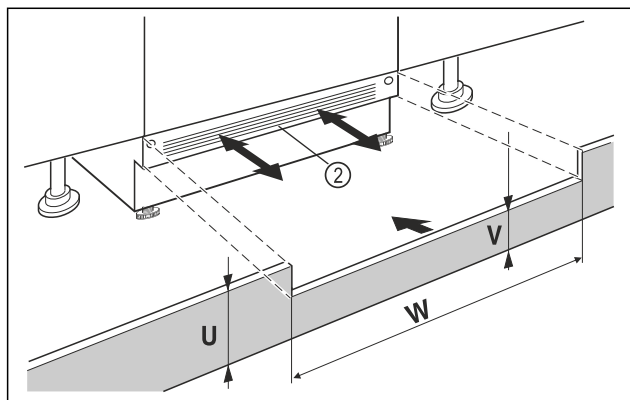

Fig. 11 Example illustration
- ▶ Put on the appliance base cover Fig. 11 (2) but do not fix it in place yet.
- ▶ If the base panel is visible Fig. 11 (2), pull it forwards so that the front edge of the ventilation grille and the unit base panel are level.
- ▶ If the base panel is concealed Fig. 11 (2), push it all the way back.
- ▶ Ensure that the ventilation slots are completely free: If necessary, cut the height of the unit base panel Fig. 11 (U) to size!
- ▶ Adjust the web height Fig. 11 (V) under the appliance base panel Fig. 11 (2) along the niche width Fig. 11 (W).